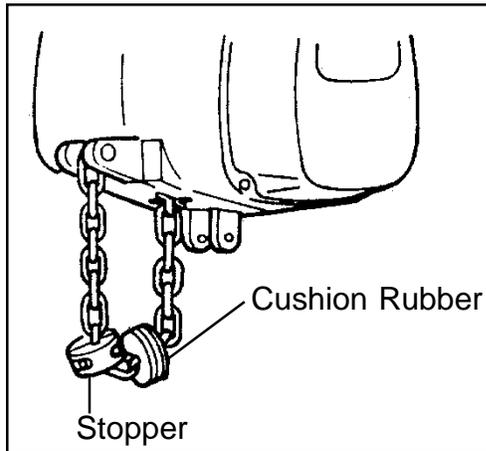
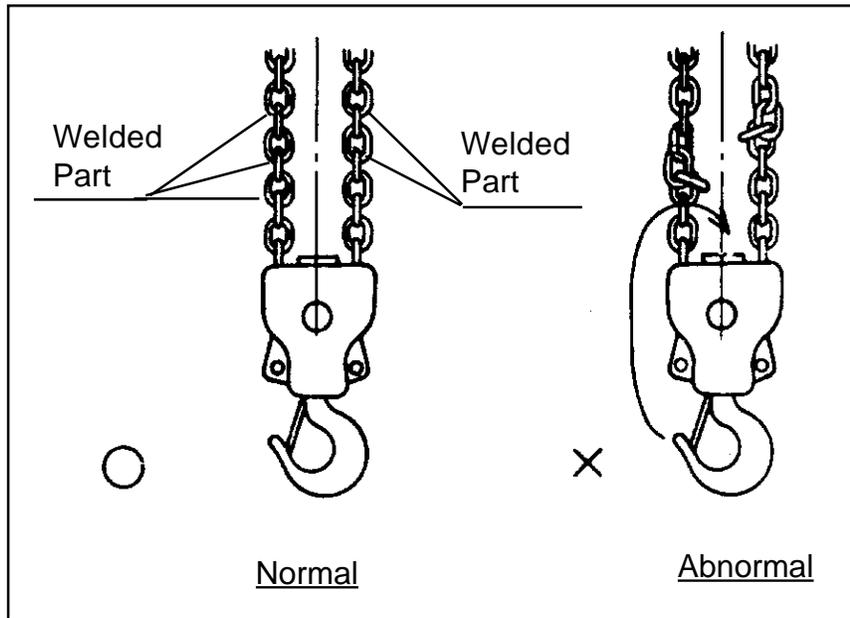

Fig. 2
Fig. 3
Mount a stopper on the ninth link from the end of load chain (Fig. 2) and connect the end of load chain to hoist body. The load chain must not be twisted (Fig.3).
6. If your hoist is either an SH005-L or SH020-L the bottom hook is suspended by a double load chain. The correct load chain setup is when the weld of every link faces inward (Fig. 3). Never try to suspend a load on a twisted chain.